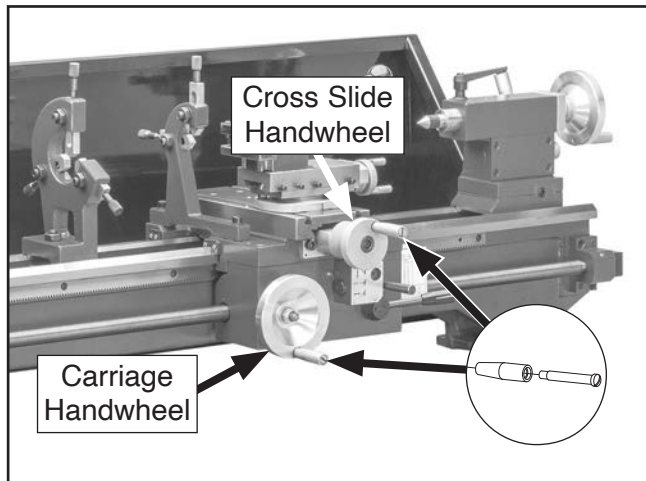

Figure 17. Handles attached to handwheels.
9. Attach (2) handwheel handles to carriage handwheel and cross slide handwheel with (2) M6-1 x 54 shoulder screws (see **Figure 17**).